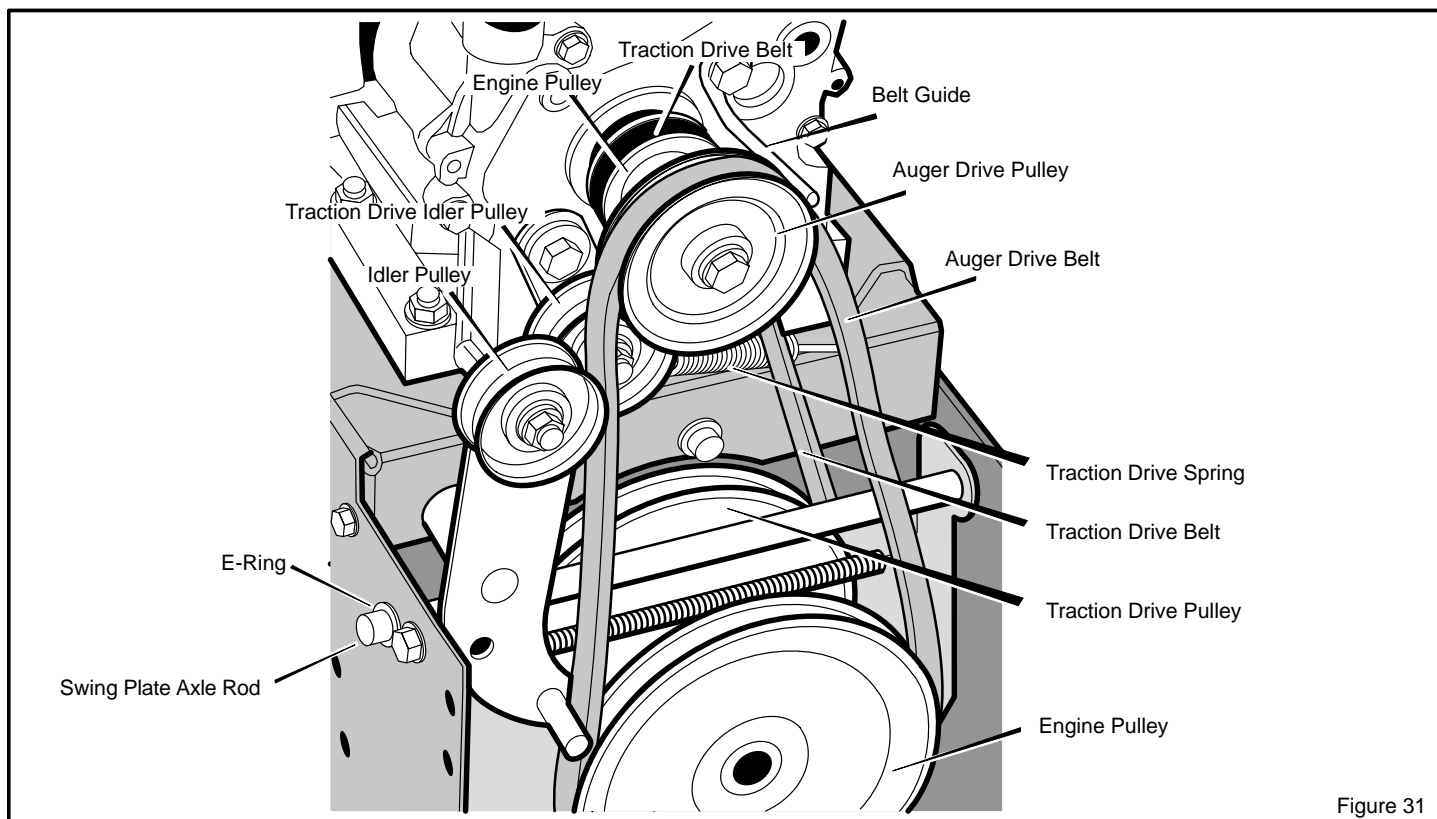

Figure 31
3. Loosen nut on auger idler pulley and move auger idler pulley towards belt about 1/8 inch (3 mm) (see Figure 31).
5. Loosen the **belt guide**. Pull the **belt guide** away from the **auger drive pulley** (see Figure 31).
3. Remove the **e-ring** from one end of the **swing plate axle rod**. Remove the **swing plate axle rod** to allow the swing plate to pivot forward (see Figure 31).